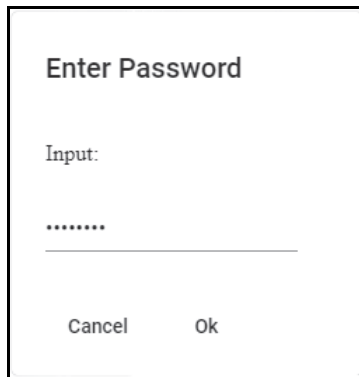

Figure 5-3 Enter Password dialog box
3. Enter the password in the **Enter Password** dialog box, and click **Ok** (see Figure 5-3 on page 68).